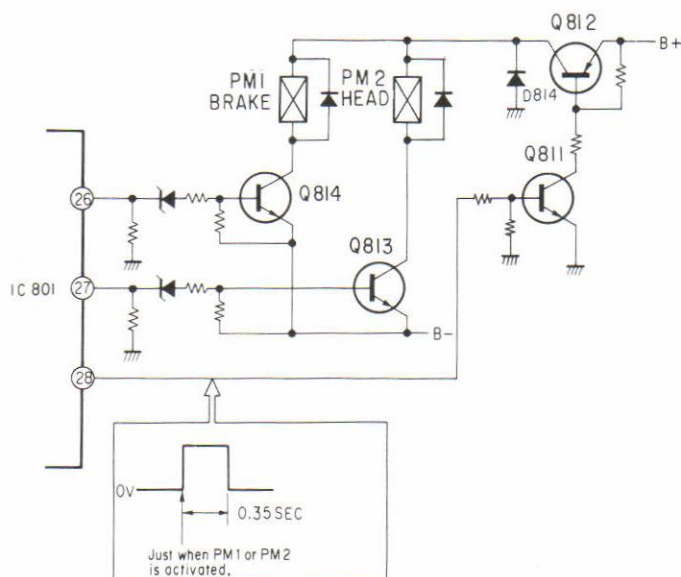

Fig. 8
2. Solenoid Drive Circuit (See Fig. 8)